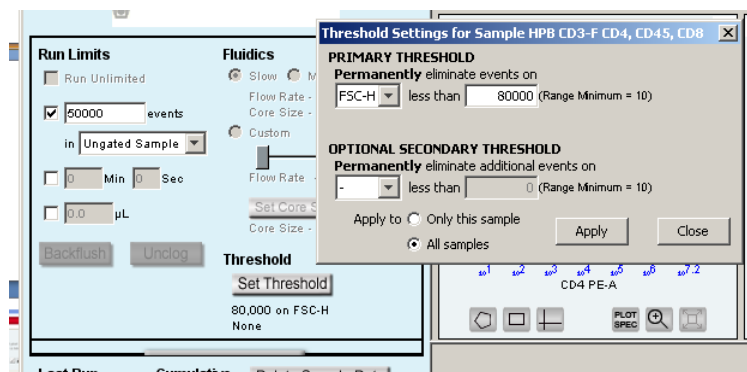

Figure 3-3 Threshold Settings dialog box
8. The default value for thresholds is 80,000. If it is not already set at this value, set the **Primary Threshold** to channel 80,000 on FSC-H (Figure 3-3). Click on the **Set Threshold** button within the Fluidics control area, and a dialog box will open. Set the **Primary Threshold** on FSC-H to 80,000, and **Apply to All Samples**. This threshold should work well to gate out debris and noise from cell samples freshly isolated from human or mouse tissues.